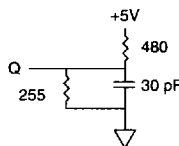

Fig. 1 OUTPUT LOAD EQUIVALENT
Output load	See figures 1 and 2
- Test conditions as specified with the output loading as shown in Fig. 1 unless otherwise noted.